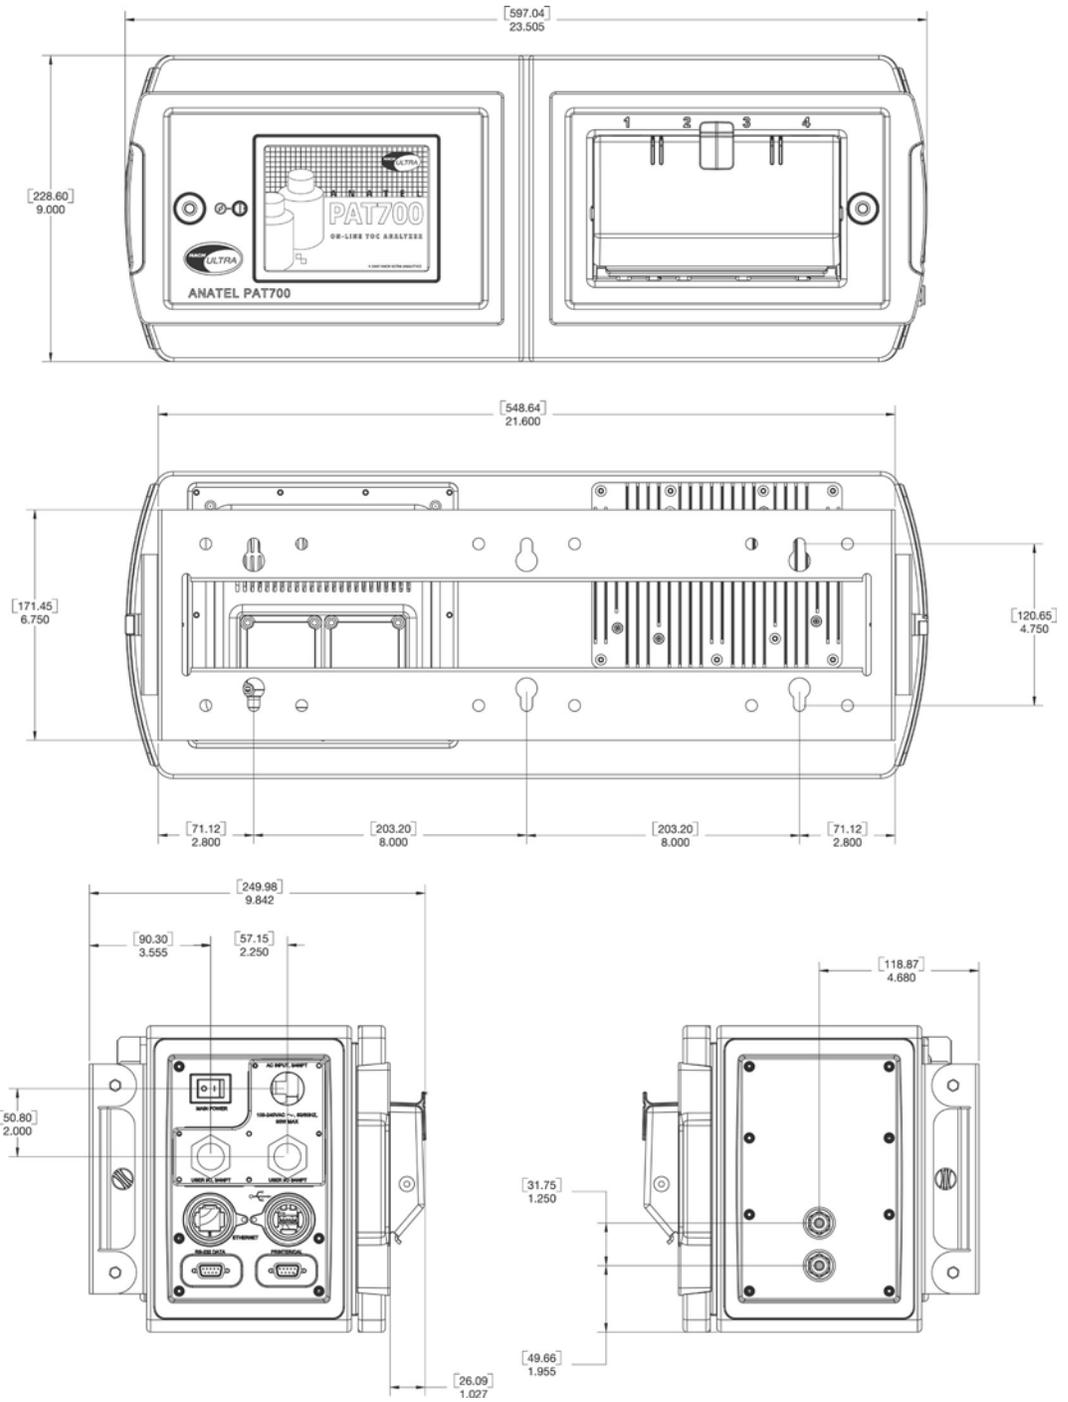
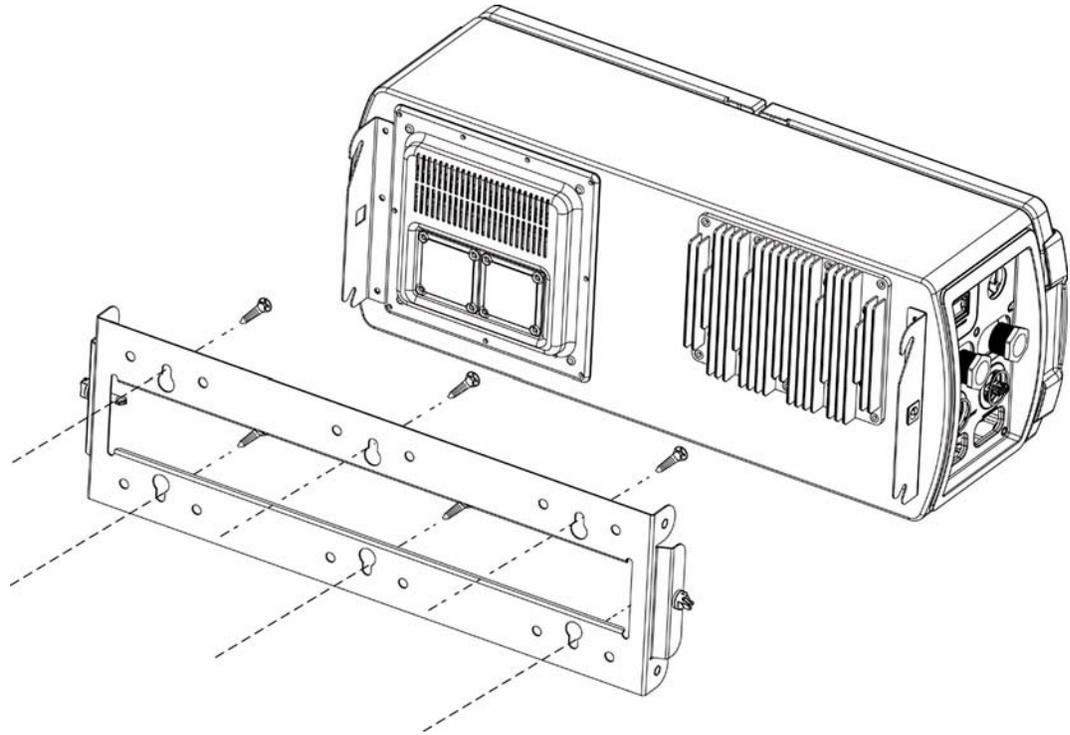
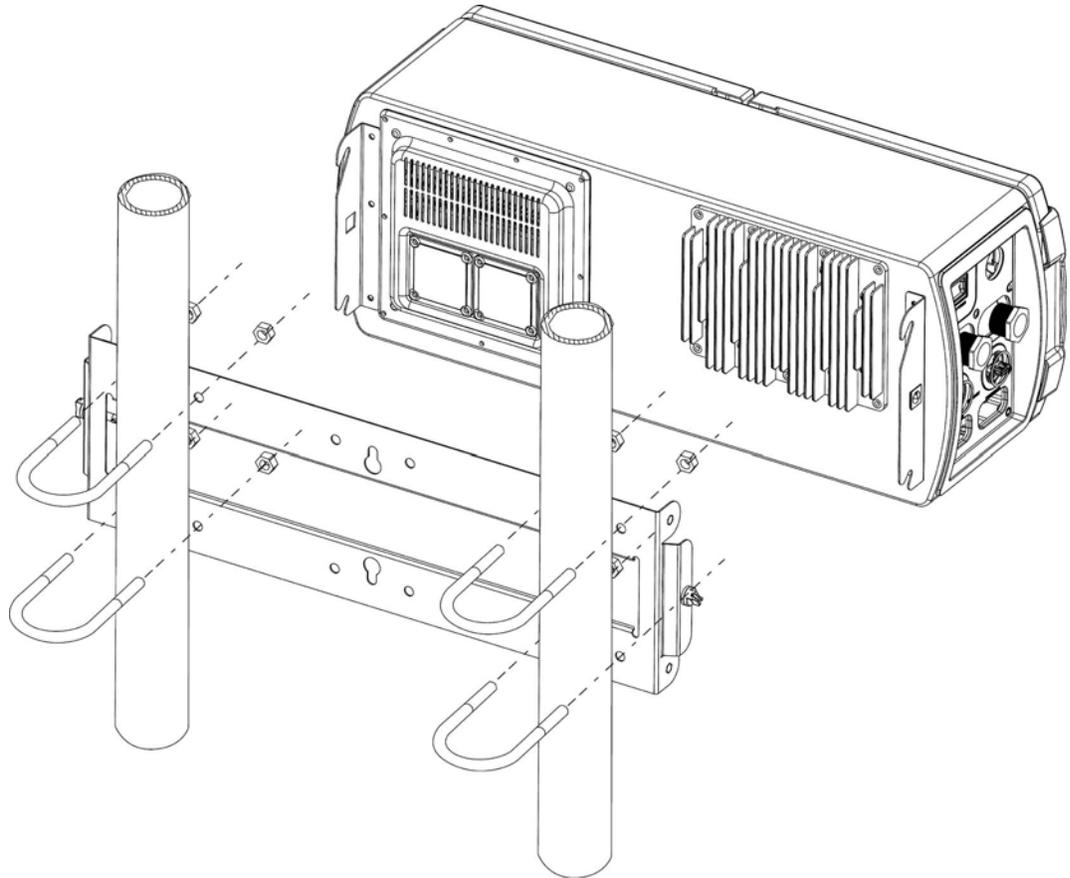

Figure 2-1 PAT700 mounting dimensions
Figure 2-3 PAT700 wall mount
Figure 2-4 PAT700 instrument-pole mount
See Figure 2-1, page 8 for mounting dimensions. The analyzer weighs 27 lb (12.25 kg).
- Secure the analyzer using the factory-supplied mounting bracket (see Figure 2-3, page 10). Use the mounting holes in the bracket to mount it to a flat, stable surface.
Follow these guidelines and refer to Figure 2-1 and Figure 2-3 to mount the transmitter to a wall or other flat, rigid surface:
Follow these guidelines and refer to Figure 2-1 and Figure 2-4 to mount the transmitter to instrument poles: